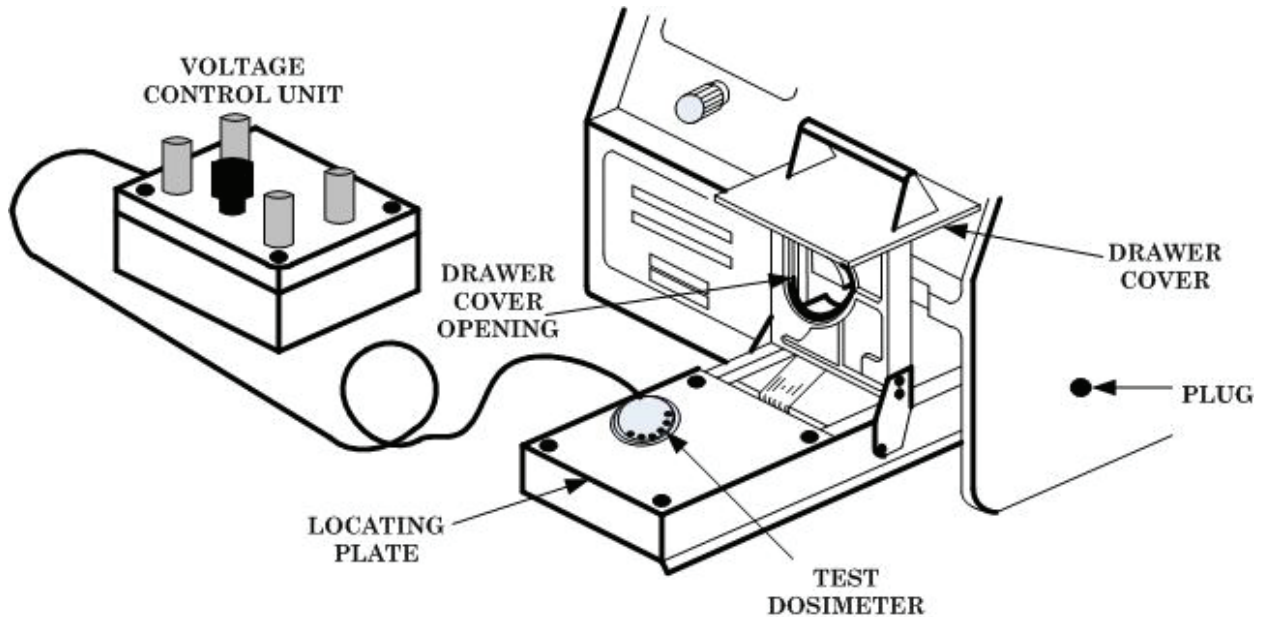
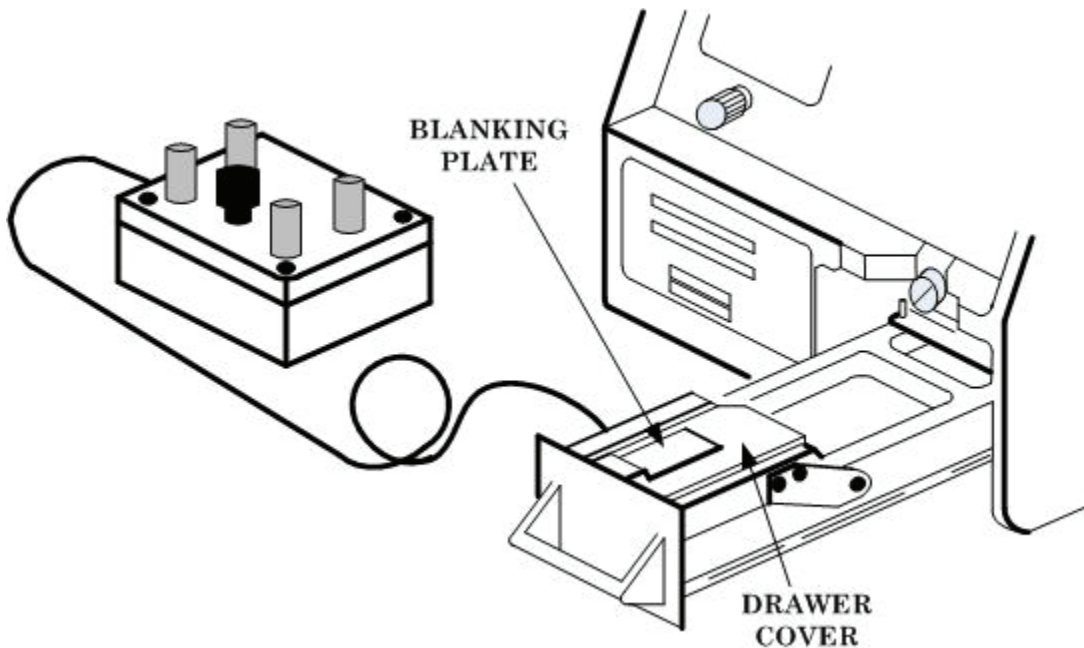

Figure 2. Test dosimeter installation.
Figure 3. Blanking plate installation.
Ensure that drawer does not contain any dosimeter or other objects on dosimeter LOCATING PLATE (fig. 2).
- o. Remove PLUG (fig. 2) on right side of TI case, exposing adjusting screw on gamma internal standard.
- (5) Press and release **DEPRESS FOR READING** switch 5 times, recording digital panel meter indications each time.
- (6) If all recorded readings are not between 790 and 810 cGy, adjust **GAMMA CAL 800** control to  $800 \pm 1$  cGy.
- (7) Set selector switch to **READ**.
- (8) Connect dc power supply No. 2 to **VOLTAGE CONTROL UNIT** (fig. 2) (part of maintenance kit) 10 V dc (+) and (-) terminals.
- (9) Disconnect multimeter from power supply No. 1 and connect to voltage control unit 10 V dc (+) and (-) terminals.
- (10) Adjust dc power supply No. 2 until multimeter indicates between  $10 \pm 1$  V dc.
- (11) Disconnect multimeter from 10 V dc (+) and (-) terminals and connect to voltage control unit DVM (+) and (-) terminals.
- (12) Open drawer assembly and **DRAWER COVER** (fig. 3).
- (13) Position voltage control unit next to TI.
- (14) Install **TEST DOSIMETER** (fig. 2) (part of voltage control unit) on dosimeter locating plate.
(15) Close drawer cover.
(16) Install **BLANKING PLATE** (fig. 3) (part of maintenance kit), so that rectangular window in cover plate is sealed.
- (1) Open drawer and remove blanking plate and reference dosimeter.
- (2) Install TEST DOSIMETER (fig. 2) and BLANKING PLATE (fig. 3) into drawer assembly. Close drawer.
- (3) Turn **GAMMA CAL 800** adjust fully ccw.
- (4) Adjust **SET VOLTS** control (voltage control unit) until multimeter indicates  $1.577 \pm 0.001$  V dc.
- (5) Press and release **DEPRESS FOR READING** switch.
- (6) Adjust **NEUTRON CAL 0** until digital panel meter indicates  $5 \pm 1$  cGy.
- (7) Using thermometer (part of maintenance kit), measure temperature of TI front panel between **DEPRESS FOR READING** switch and selector switch.
- (8) Record front panel temperature (temperature must be between 59 and 86 °F (15 and 30 °C).
- (9) Note voltage that corresponds to front panel temperature in (8) above, using table 3 below.
- (10) Adjust **SET VOLTS** knob on voltage control unit until multimeter indicates within  $\pm 0.001$  V of voltage noted in (9) above.